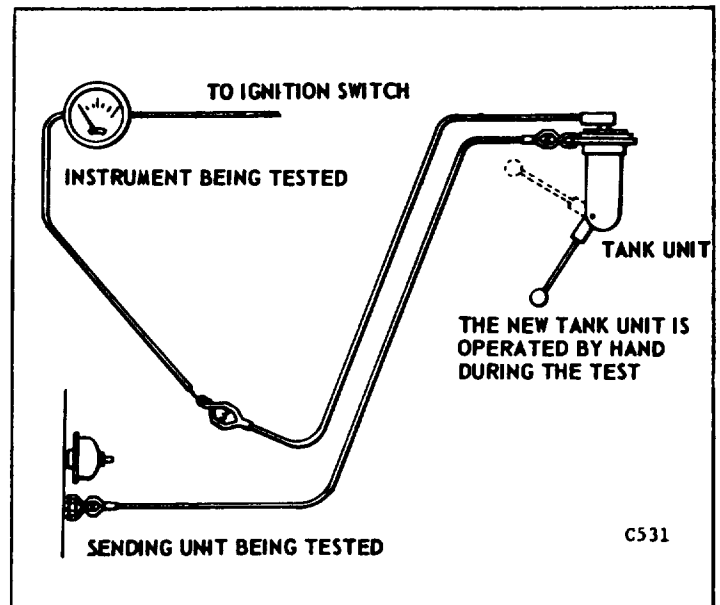

Figure 44.
a. Disconnect sender unit being checked and hook in tank unit as shown in Figure 44. Turn on ignition switch and operate float rod of tank unit by hand.
(1) Attach one end of the ten foot length of wire to the terminal of the receiver unit to which the wire lead is attached.
(2) Ground the other end of the long lead and turn the ignition switch.
(3) If the gauge operates now and did not operate with the regular wire connection, the wiring is at fault.